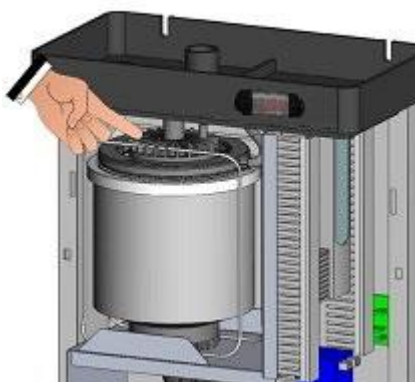

Fig. 1
2. Replace the humidifier steam outlet flange (diameter 25mm) with the supplied flange (Fig. 1) (diameter 40mm) (not necessary for ES24 humidifiers).